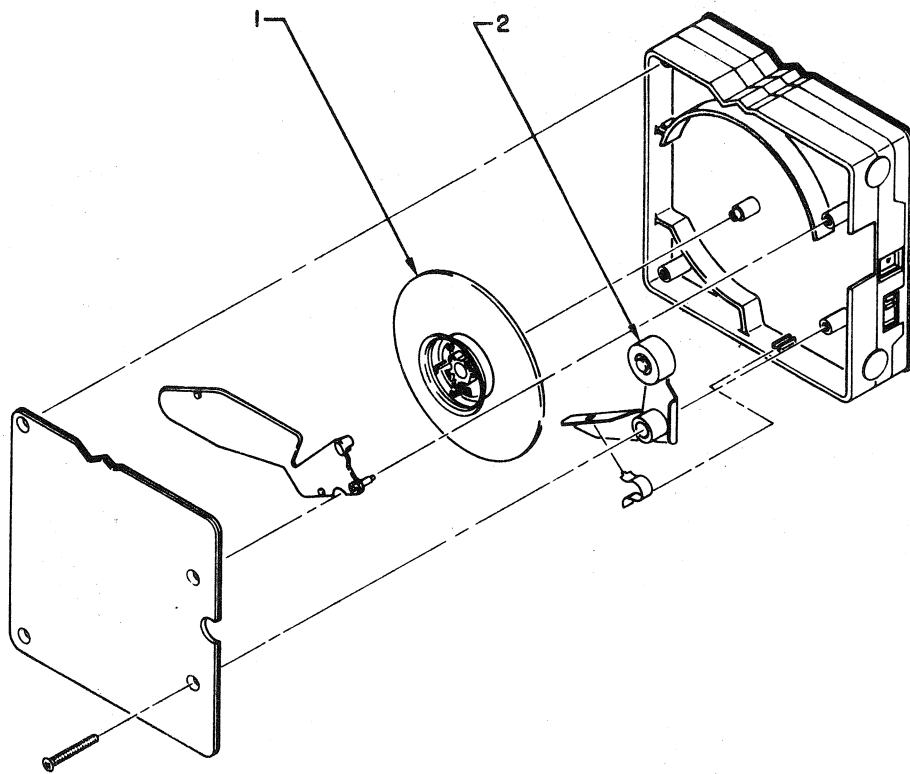

Figure 1-4 Cartridge Assembly, Tape Side
- 1.10 Cartridge Assembly; Theory of Operation (Refer to Figures 1-4 and 1-5).